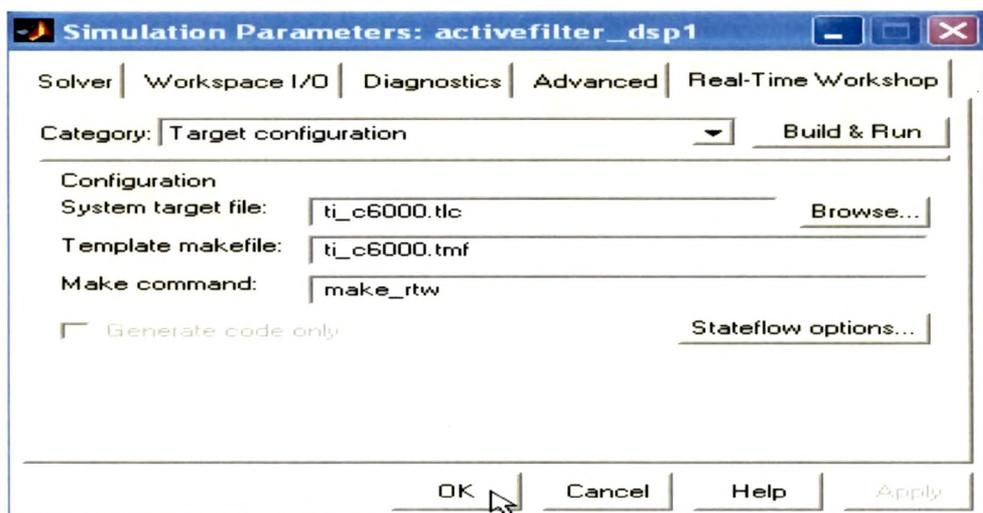

Fig 8.36 Simulation Parameters: Dialog Box
- From the **Simulation** menu, choose **Simulation Parameters**. The **Simulation Parameters** dialog box (Fig 8.36) opens.